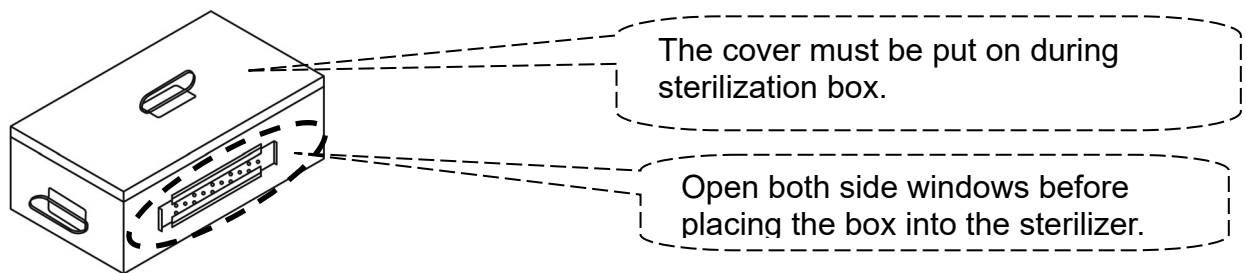

Figure 16
- D. Place the items to be sterilized and the sterilization indicator strips into the box as required. Remember to open both side windows before placing the box into the sterilizer as Figure 16